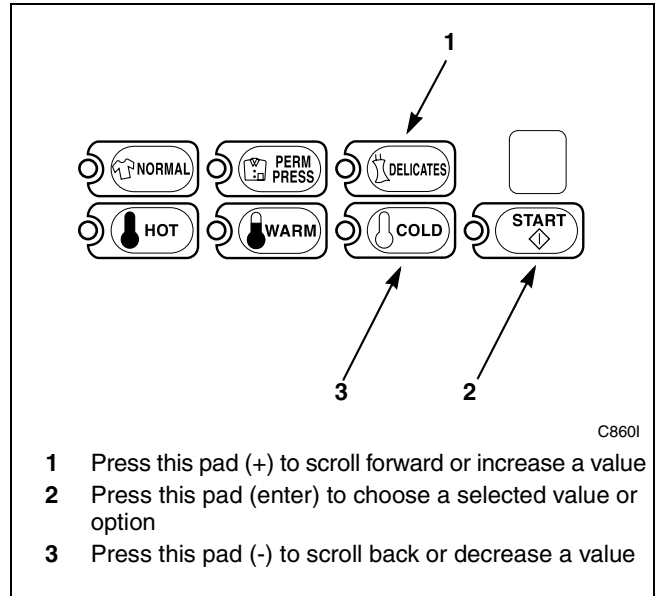

Figure 158
5. Press the DELICATES (+) or the COLD (-) keypad to increase or decrease the current number of minutes displayed in the VFD to the desired number of minutes. Refer to *Figure 158*.
**NOTE: The Delicate Extra Rinse Agitate Time can be set from zero (0) to 15 minutes.**